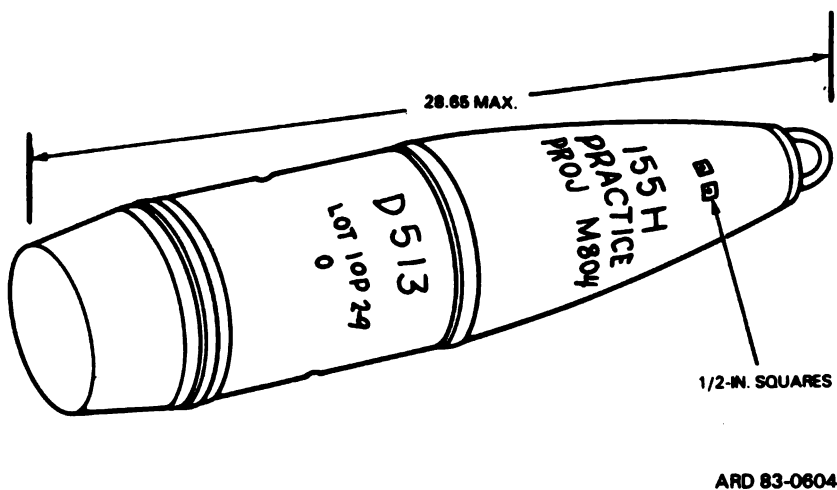

Figure 211.14.3. Projectile, 155-mm practice, M804.
(17) *Projectile, 155-mm, practice, M804 (fig. 211.14.3).* The M804 projectile is used in place of the M107 HE projectile in service practice exercises. The M804 contains a small smoke canister in the fuze well which provides flash and smoke for visual determination of functioning. The M804 is similar in weight and external configuration to the M107 HE projectile, and can be used in service practice without the blast and fragmentation which accompanies the functioning of an M107 HE projectile. The body of the M804 contains four holes, 90 degrees apart, which serve to disperse smoke on functioning.